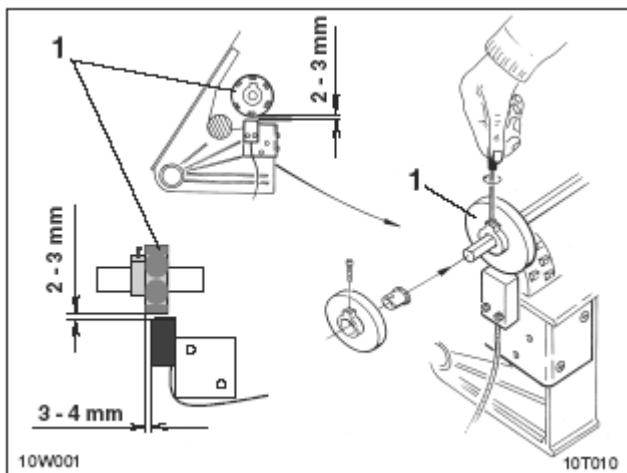

Fig. 10.4
- ☐ Attach magnet holder (Fig. 10.4/1) with 6 magnets to lay shaft.